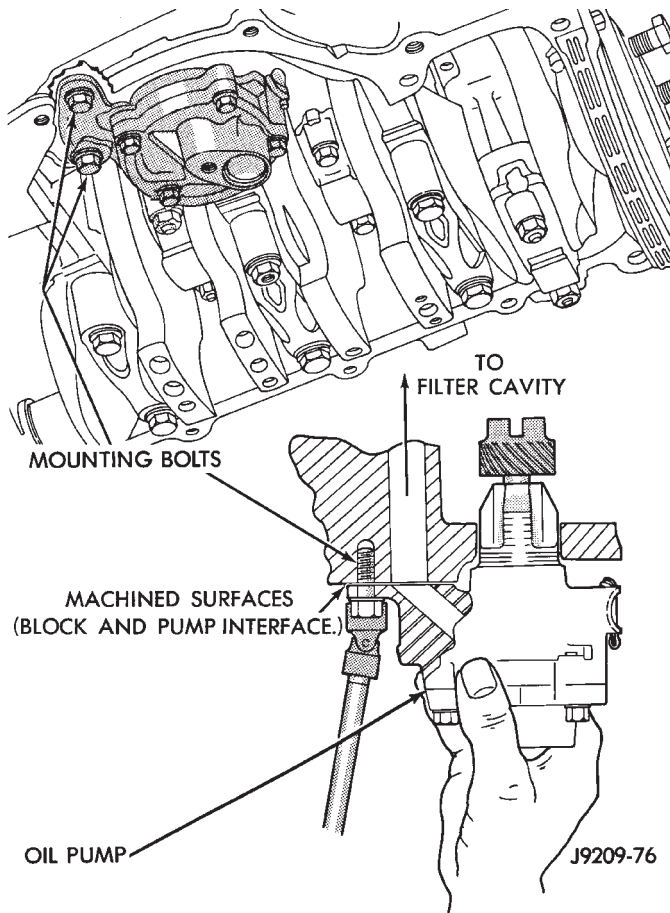

Fig. 5 Oil Pump Assembly
inder block assembly (Fig. 5).
- (5) Install pump full depth and rotate back and forth slightly to ensure proper positioning and alignment through full surface contact of pump and block machined interface surfaces (Fig. 5).